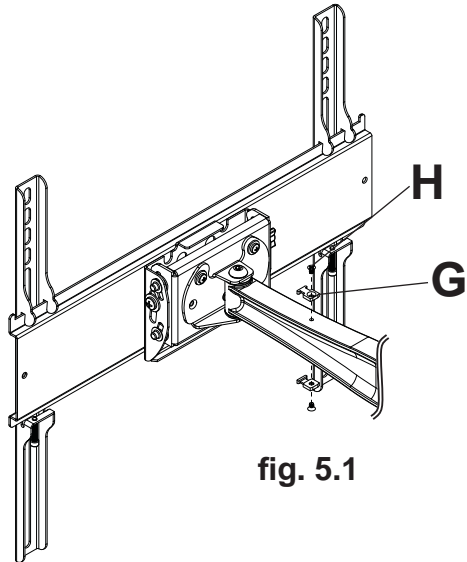
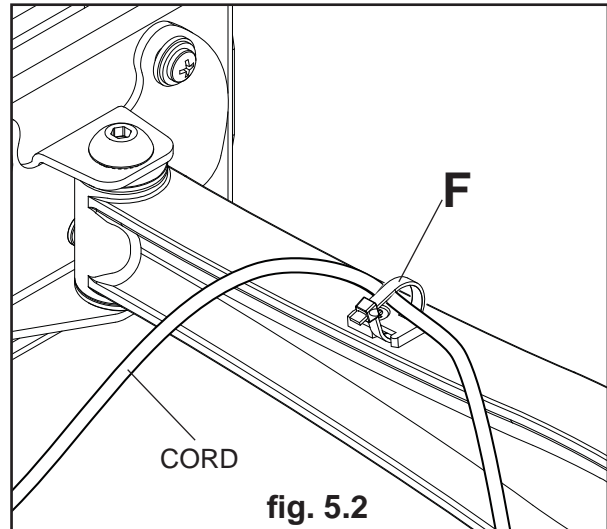

fig. 5.1
fig. 5.2
- 5 Attach cable tie anchor (G) to top or bottom of wall arm (A) using 8/32 x 1/4" phillips screw (H) as shown in figure 5.1. Secure cables to top or bottom of wall arm (A) using cable ties (F) as shown in figure 5.2.